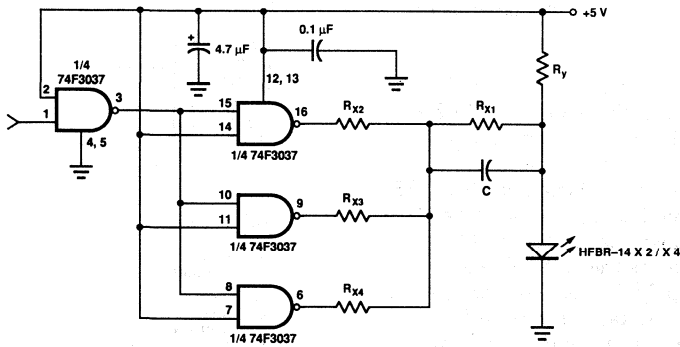

Figure 11. Recommended Drive Circuit.
- Pre-bias is recommended if signal rate > 10 Mb/s, see recommended drive circuit in Figure 11.
The LED drive circuit shown in Figure 11 uses current-peaking